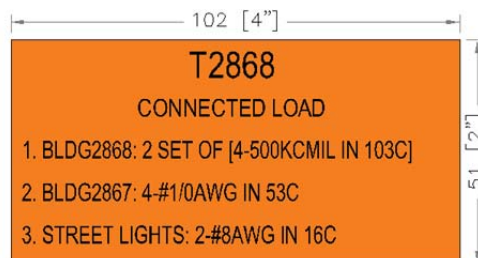

Figure-10 Transformer Load Label (Example)
- Figure-10 Transformer Load Label (Example)